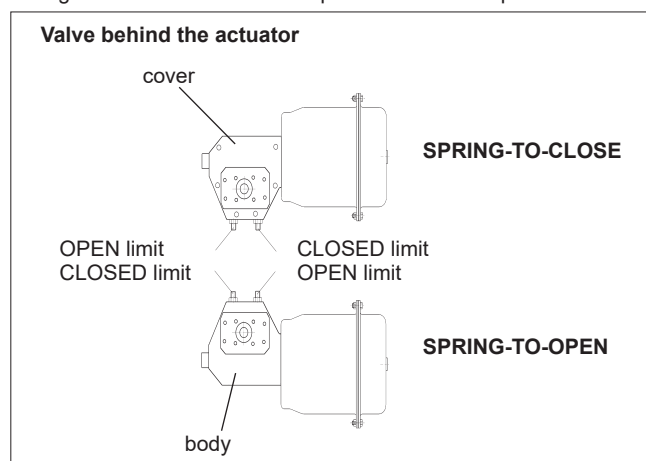

Fig. 22 Installation of the Quadra-Powr actuator and adjustment of the open and closed limits
- The Quadra-Powr actuator can be used for 'spring-to-close' or 'spring-to-open' operations, depending on its installation position. Fig. 22 shows the installation positions for both options.
- Adjust the valve open and closed limits by means of the screws on the side of the actuator. Remember to tighten the locking nuts. See Fig. 22. **Keep your fingers out of the flow bore!**